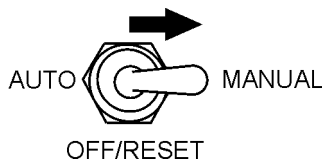

Figure 69. Auto-Off/Reset Switch
2. While keeping the **Hour Check Button** pressed, place the **Auto Off/Reset Manual Switch** (Figure 69) in the **MANUAL** position.